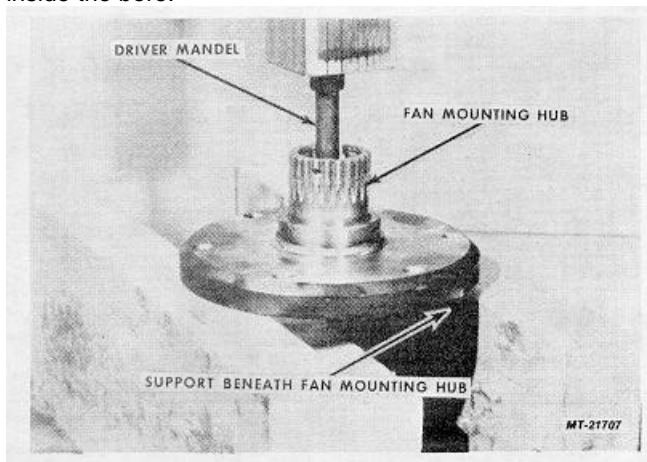

Fig. 15
12. Place Driver Mandel SE-2782-9 down through the center of Fan Mounting Hub to rest against Expansion Plug, Fig. 15. Be sure the driver mandel is resting on the Expansion Plug rather than on Bearings or Shims inside the bore.